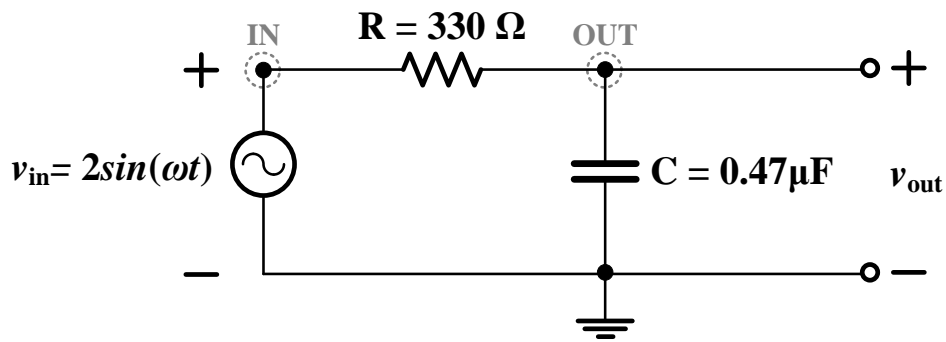

Fig. 9. The passive low-pass filter.
1. Measure the actual values of R and C in Fig. 9, and record in Table A.1.
2. Connect the passive low-pass filter (LPF) circuit as shown in Fig. 9.